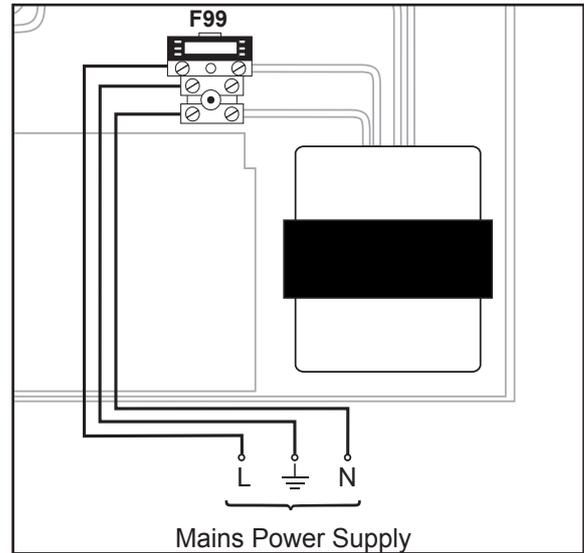

Figure 6. Mains connection
- Connect the field wiring: See Figure 6.